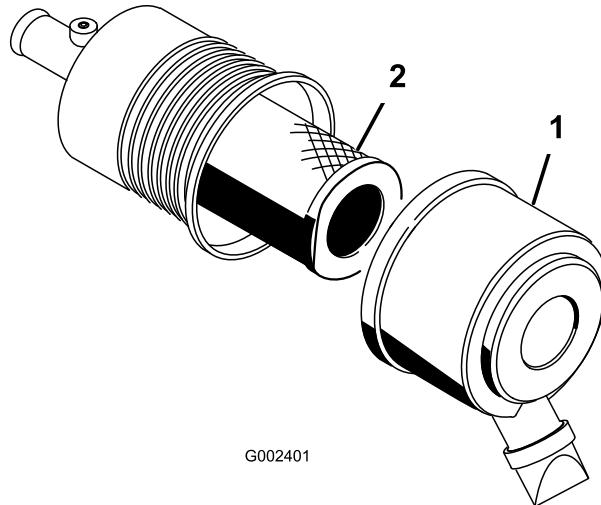

Figure 34
1. Release the latches on the air cleaner and pull the air cleaner cover off the air cleaner body (Figure 34).
4. Gently slide the primary filter out of the air cleaner body (Figure 34).
- If you are replacing the safety filter, carefully slide the new filter into the filter body (Figure 34).
- Carefully slide the primary filter over the safety filter (Figure 34).
- Install the air cleaner cover with the side indicated as UP facing up and secure the latches (Figure 34).